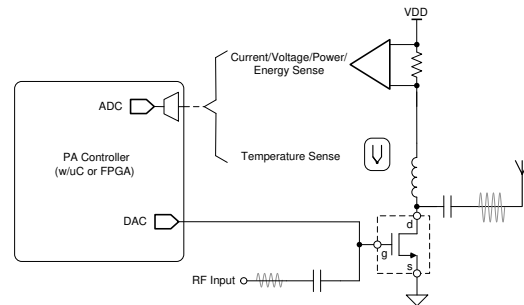

Figure 3. PA Biasing and Current Sensing
The bias current in power amplifiers (PA) is adjusted to suit the need of an end application, modulation scheme, and operation class. A typical PA with current sensing is shown in Figure 3.